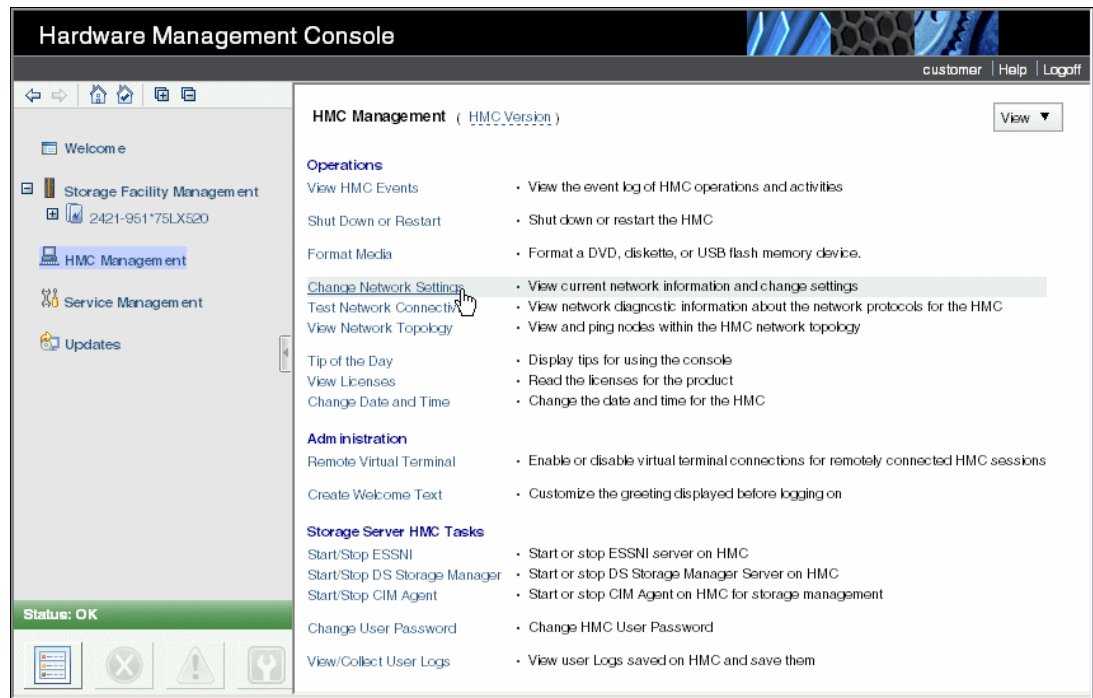

Figure 9-7 WebUI HMC management window
3. In the HMC Management window, select **Change Network Settings** as shown in Figure 9-7.